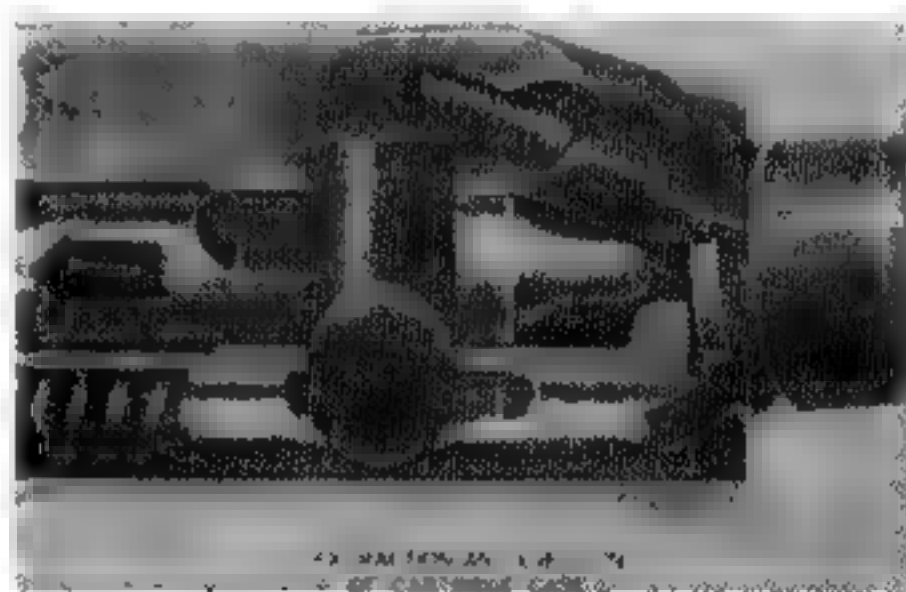

Figure 41. Extraction and ejection.
*e. Extraction.* Extraction occurs next (Fig. 41). Remember that the extractor has been gripping the rim of the cartridge case all the time that the cartridge has been in the chamber. Initially the cartridge is loosened in the chamber as the bolt unlocks, due to a very slight rearward movement of the bolt. As the bolt continues to the rear it pulls the empty case from the chamber.
*f. Ejection.* When the front of the empty cartridge case clears the rear of the chamber, the ejector (which has been continually pushing against the base of the case) ejects the empty case from the receiver by the action of the expanding ejector spring (Fig. 41).